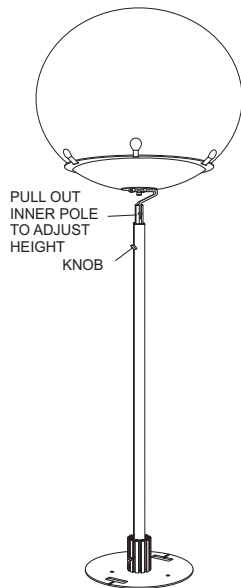

Figure 27. MBP Pole Height Adjustment
1. To adjust the height of the pole, loosen the height adjustment knob (see Figure 27) on the MBP mounting pole and slowly pull up the inner pole to the desired height. Tighten the height adjustment knob.